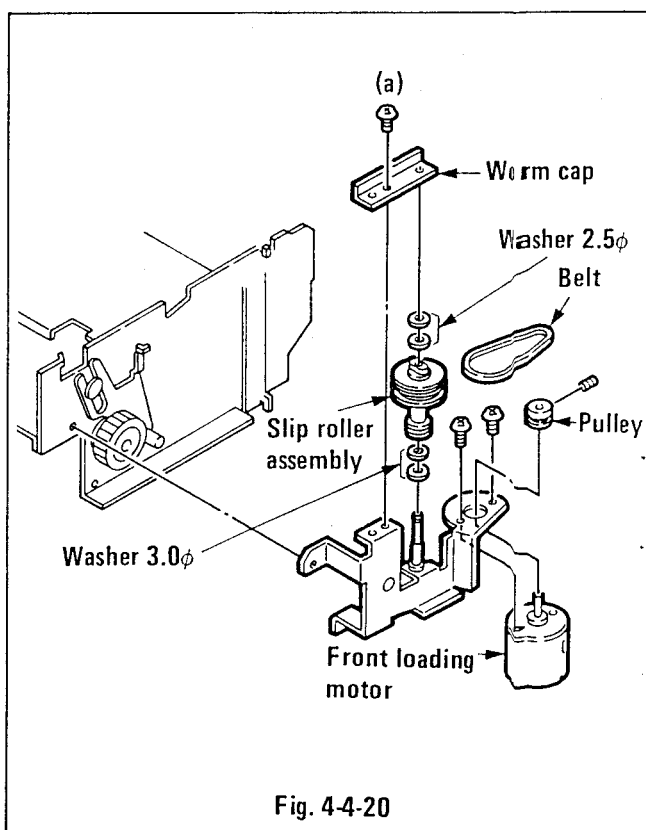

Fig. 4-4-20
17. SLIP ROLLER ASSEMBLY AND BELT (See Fig. 4-4-20)